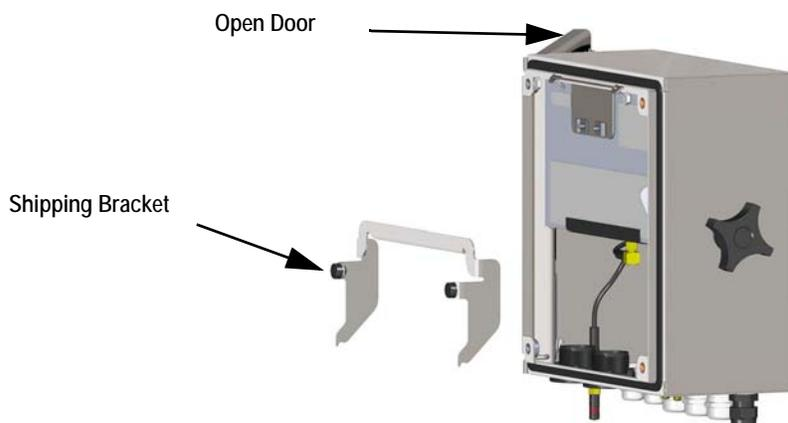

Figure 2-2. Remove Shipping Bracket
- Pull the door and fully extend the hinge to swing the door open. See Figure 2-2.